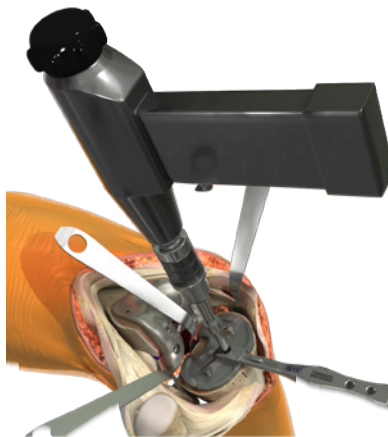

Figure 24a
3. Using the 11mm tibial drill, drill through the central canal of the tibial trial (Figure 24a).